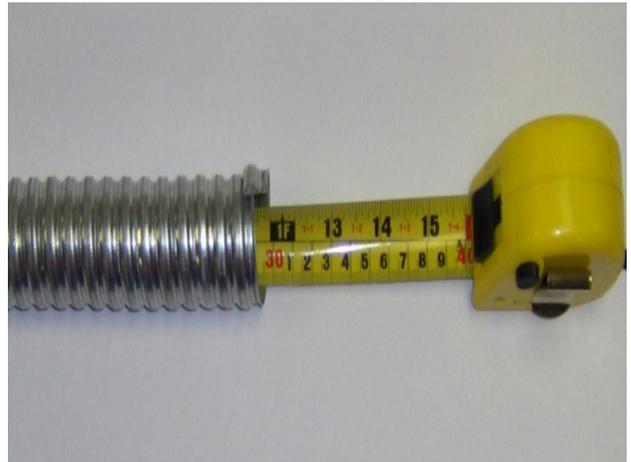

Figure 5
5.10 If the core cable *appears* to have “retracted” into the armor and the head end cannot be seen, insert a tape measure into the armor to determine where the core cable’s head end is located. **See Fig. 5.**